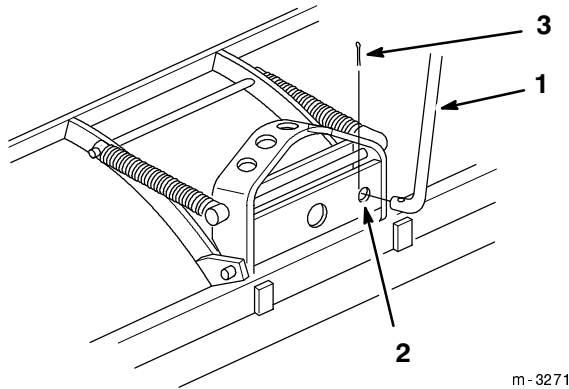

Figure 3
4. Insert one end of the angle control rod through the hole in the bottom plate of the channel weldment (Fig. 3).
5. Insert a cotter pin through the hole in the rod and bend the ends of the pin (Fig. 3).